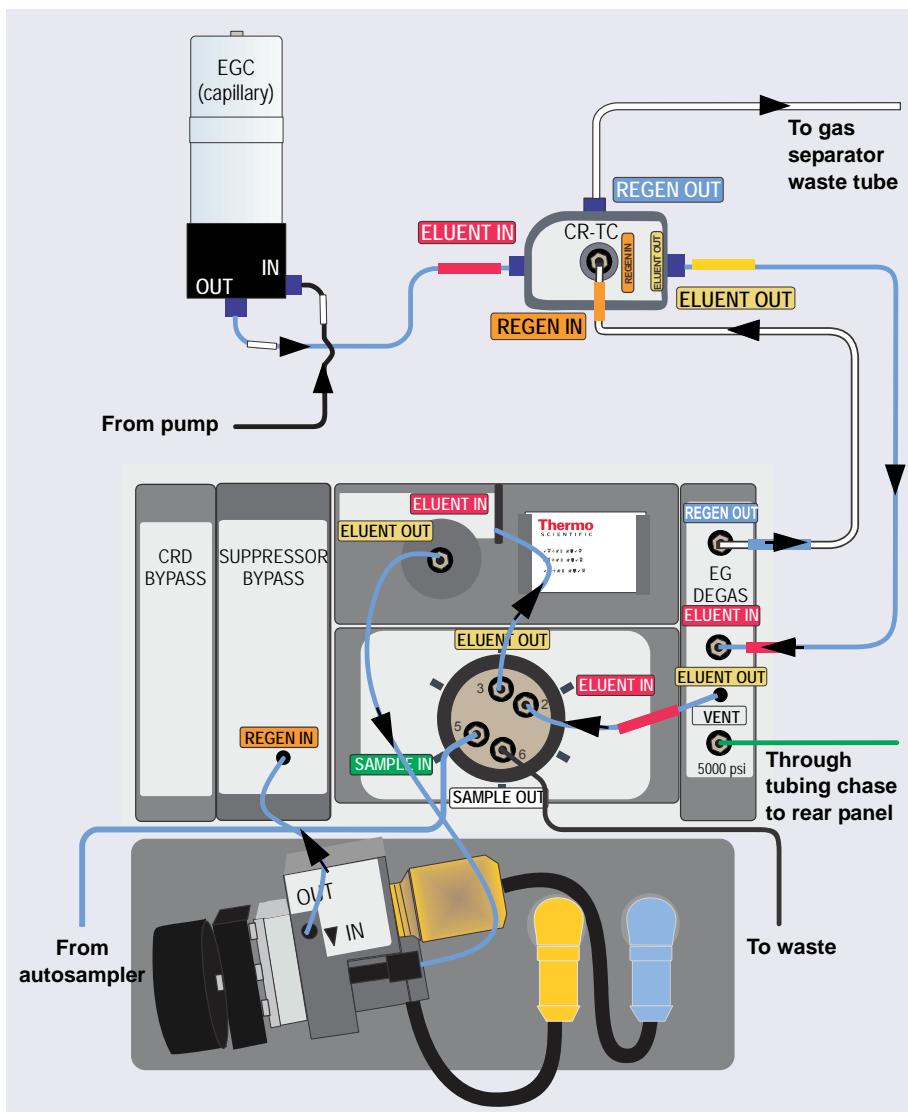

Figure 4-17. Flow Schematic for Equilibration and Operation of a Electrochemical Detection System (Final Flow Path)
1. Connect the cell inlet line (P/N 082618) to the column **ELUENT OUT** port (see Figure 4-17).